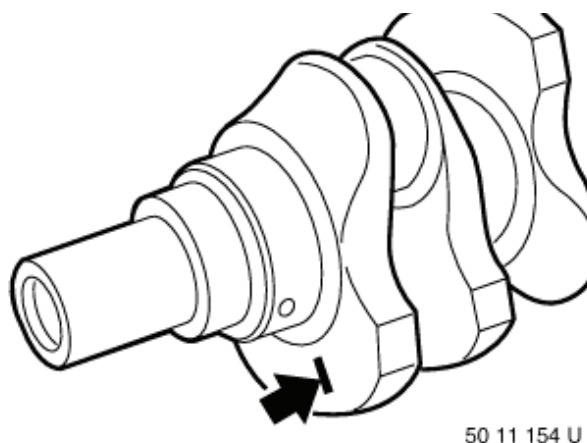

Figure 5-114
- (a) Locate and record the grinding size of crankshaft (**Figure 5-114**).